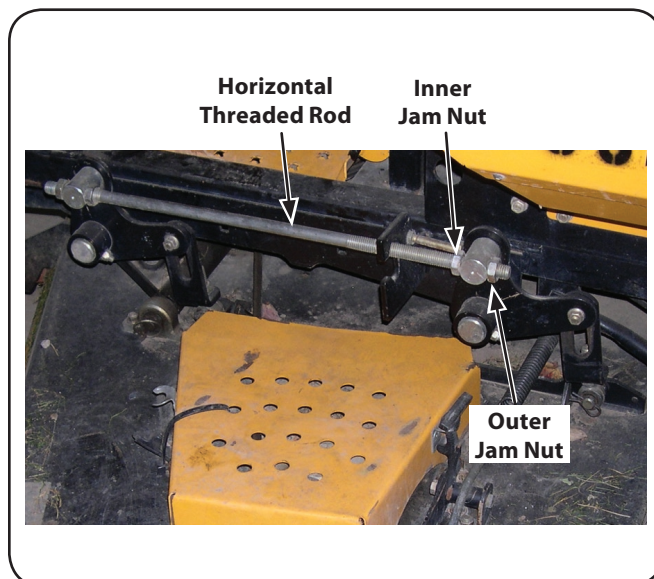

Figure 6-7
2. Loosen the inner jam nuts at the rear left and right of the horizontal threaded rods. See Fig. 6-7.